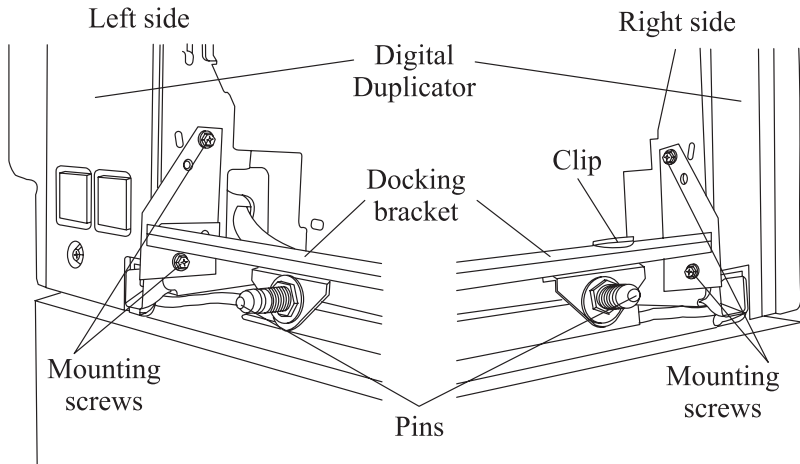

Figure 8
- 4.1. Attach the Docking bracket to the Digital Duplicator where the paper delivery tray brackets attached, using the four (4) supplied screws. Refer to Figure 8.